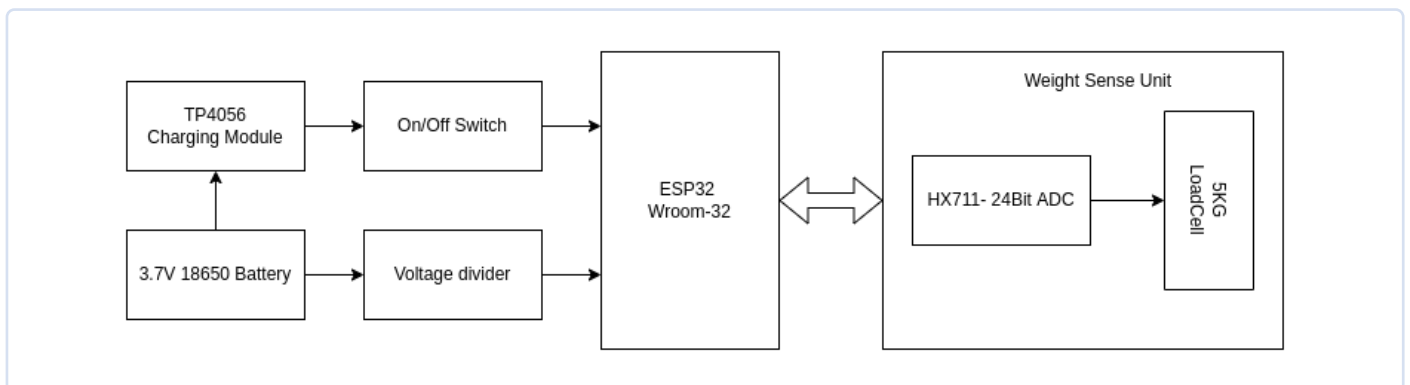

Figure 1: Block diagram of the human-centric grocery container.
**Figure 1** presents the block diagram of our system. We use a load cell [1] as the sensor to measure the weight of the groceries, supporting weights up to 5 kg. The sensor's output is a differential voltage that varies with the applied weight. This analog signal is converted into a digital signal via a SparkFun HX711 amplifier module [2], equipped with a 24-bit ADC. An Espressif ESP32 microcontroller [3] processes the ADC data and uploads it to the Adafruit IO cloud platform through Wi-Fi, using the MQTT protocol. Users can access their inventory information via the Adafruit IO dashboard. The system is powered by a 3.7 V lithium-ion rechargeable battery, which can be charged by a 5 V USB charger through a TP4056 charging module [4].